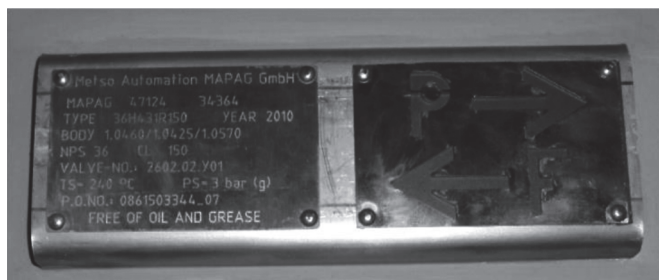

Figure 3 Type plate and pressure/flow direction
Only in vertical transport position, always secure the round sling to the actuator (see Figure 3). Make sure that instrumentation and piping is not damaged if you secure the slings to the actuator.
The valve data are shown on the type plate attached to the valve body neck. (see Figure 3)
The CE sign is displayed on the identification plate (see Figure 3: type plate).
- Turn the valve in such a manner that the arrow (P for pressure) on the body points to the pressure direction of the process. (see Figure 3)